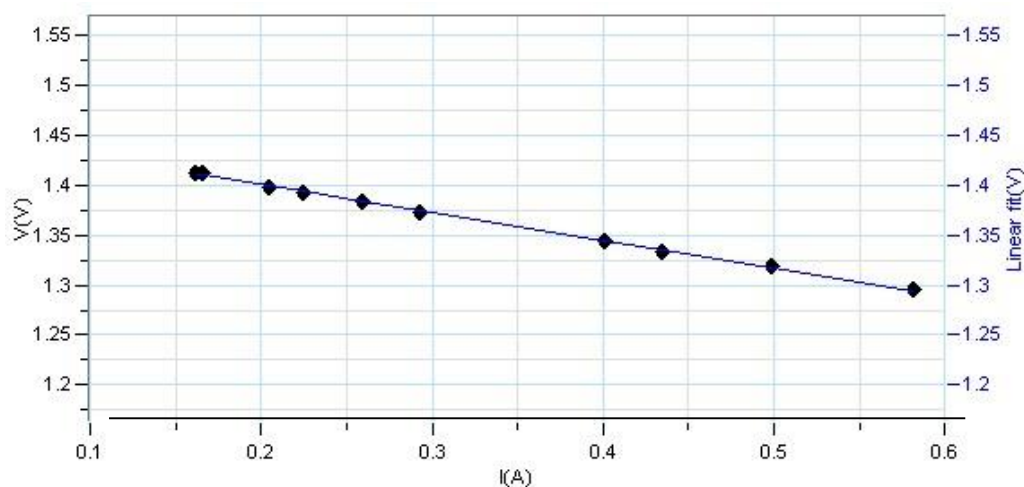

Figure 3
1. Apply a linear fit to the graph (see Figure 3):